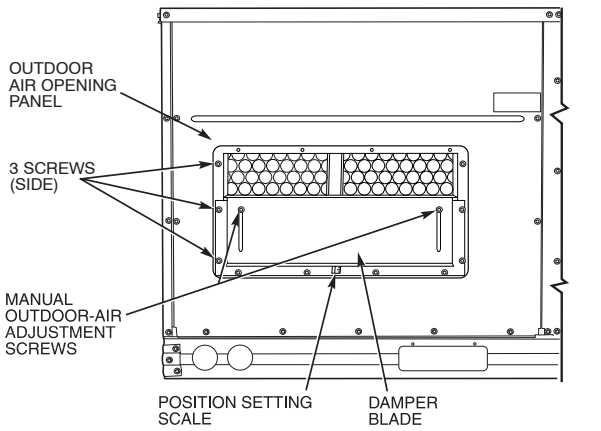
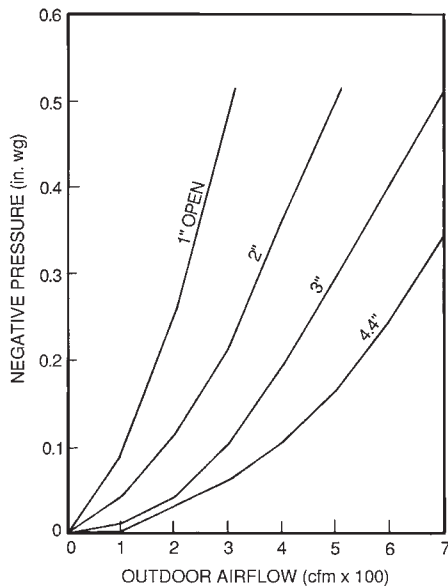

Fig. 18 – Damper Panel with Manual Outdoor-Air Damper Installed
Fig. 21 – Outdoor-Air Damper Position Setting
2. Remove and save outdoor air opening panel and screws. (See Fig. 18.)
8. Adjust minimum position setting of the damper blade by adjusting the manual outdoor-air adjustment screws on the front of the damper blade. (See Fig. 18.) Slide blade vertically until it is in the appropriate position determined by Fig. 21. Tighten screws.